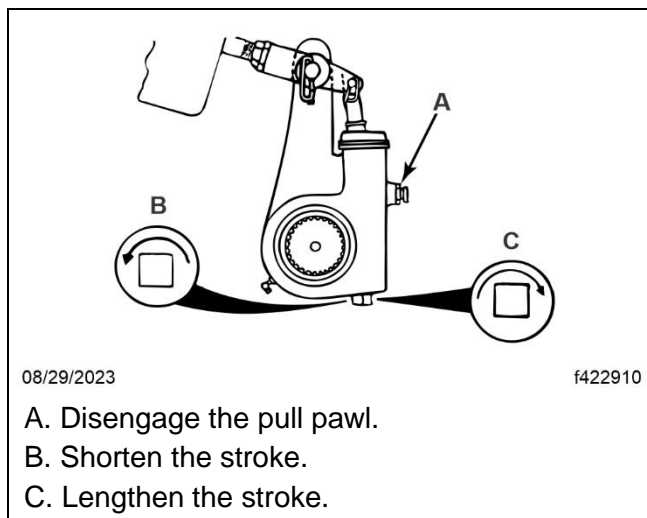

Fig. 7, Setting the Free Stroke
14. To set free-stroke with the pull pawl still disengaged and the brake drum installed and fully seated, turn the adjusting nut counterclockwise. Tighten the nut 20 to 25 lbf·ft (27 to 34 N·m) as the linings contact the drum. See Fig. 7.
15. Draw a paint pen line across the adjusting nut and on to the slack. Back the adjusting nut off 3/4 of a turn (270 degrees) by turning the nut clockwise. Damage will occur if the nut is rotated without the pull pawl being disengaged. See Fig. 7.